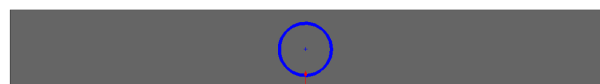

Fig. 18
Step 4. Draw a circle for the panel support pin hole, Fig. 18.